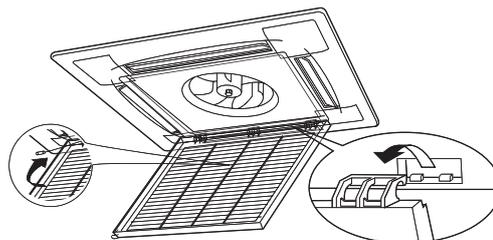

fig.9-2
- 2 Take out the air-in grill (together with the air filter shown in *fig.9-2*).**